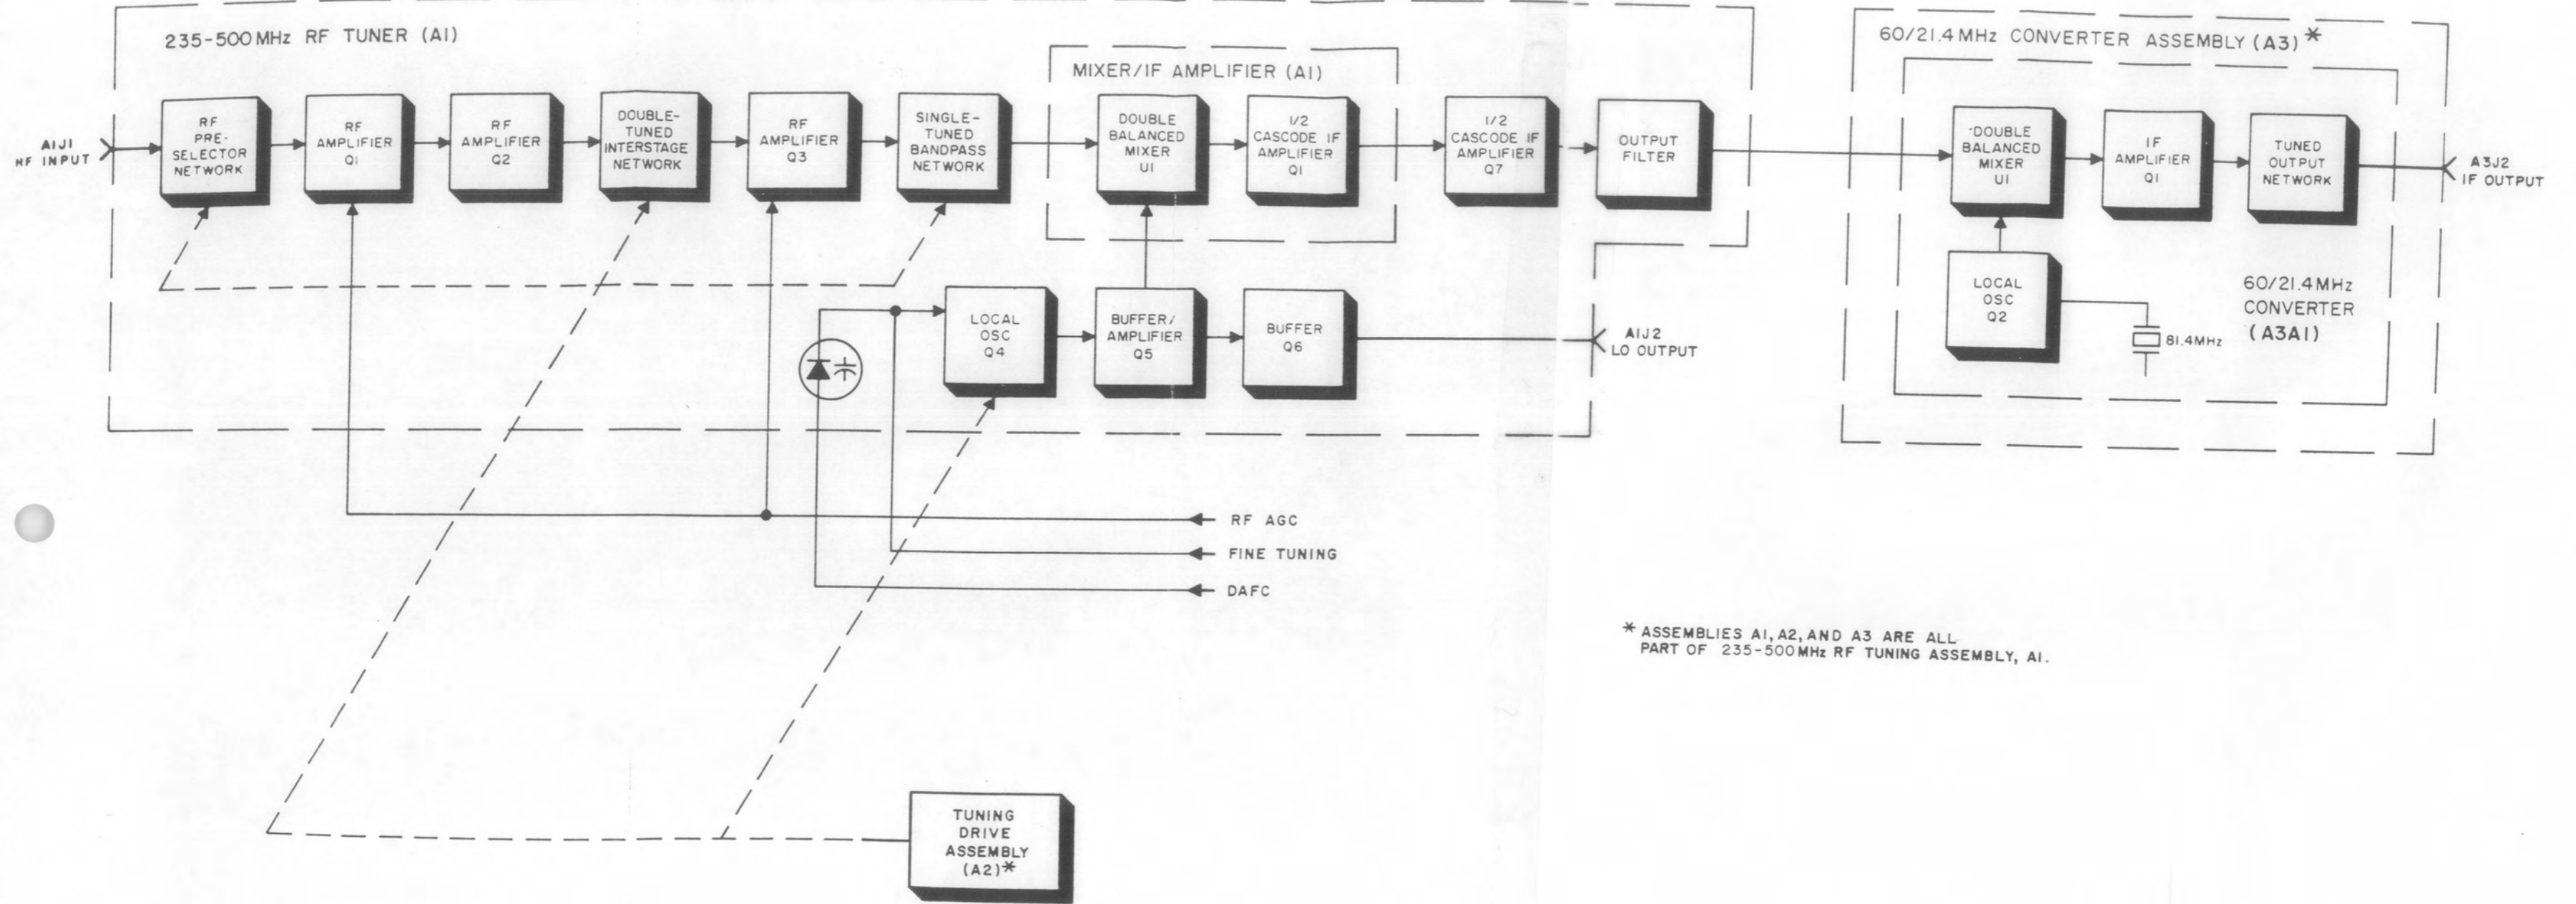

Figure 3-4. WJ-9064-3 Tuning Head (A3), Functional Block Diagram
3.6.1 Referring to the functional block diagram, Figure 3-4, a signal at the received frequency is applied to an rf preselector network. From this network the signal is applied to i-f amplifiers A1Q1 and A1Q2. The amplified signal from A1Q2 is then applied to a double-tuned interstage network which adds greater front end selectivity to the tuner. The signal is further amplified by A1Q3, and coupled to a single-tuned bandpass network which further enhances the rf selectivity. The high degree of rf selectivity results in rf images being attenuated to very low levels. Ganged tuning is used to track the front end rf tuned circuits